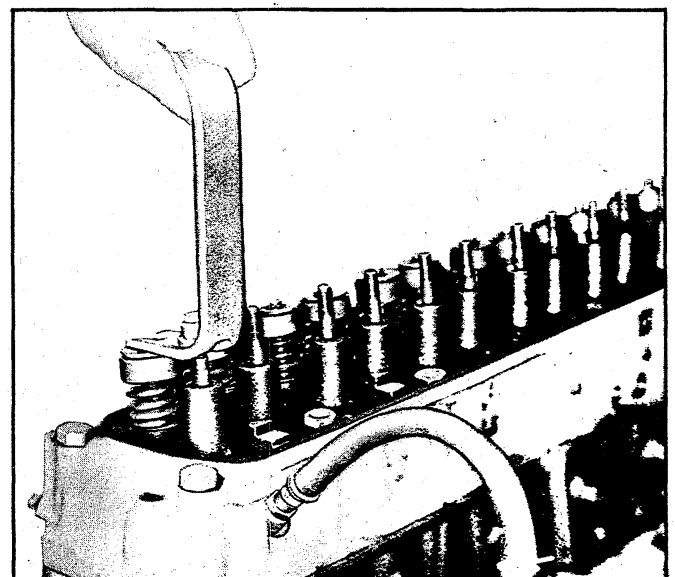

Fig. 4L - Compressing Valve Spring
4. Using Tool J-5892 to compress the valve spring, remove the valve locks, valve cap, valve shield and valve spring and damper (fig. 4L).